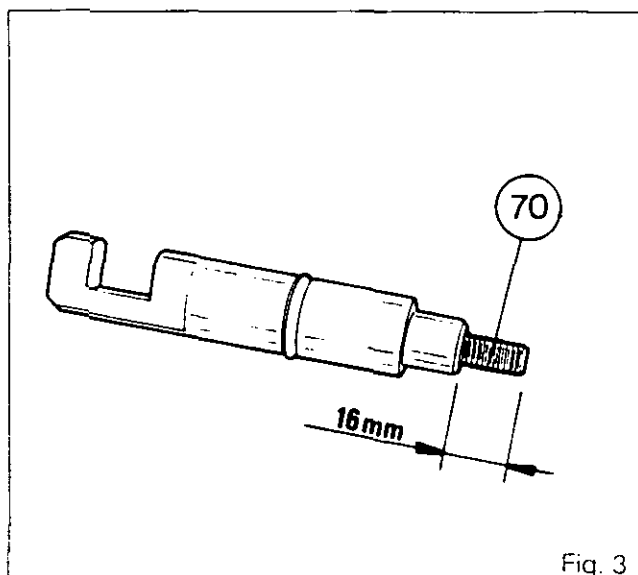

Fig. 3
**N.B.** If it proves necessary for the threaded rod (70) to be removed, clean it and refit it to the rod of the piston with Loctite 270, observing the dimension of 16 mm (Fig.3).